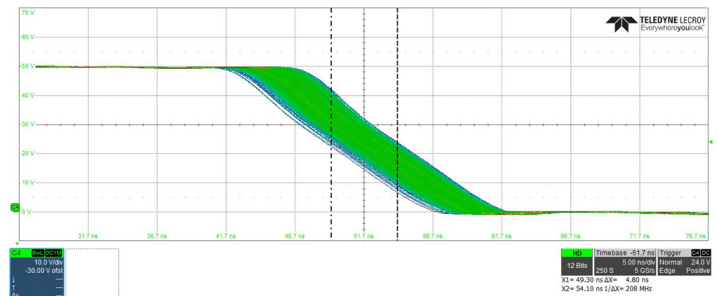

Figure 5: Pulse-Width Jitter with Dither Off, 48 V_{IN}, 5 V_{OUT}, 2.2 MHz at 1 A Load
- Pulse-width jitter with Dither Off is shown in Figure 5.